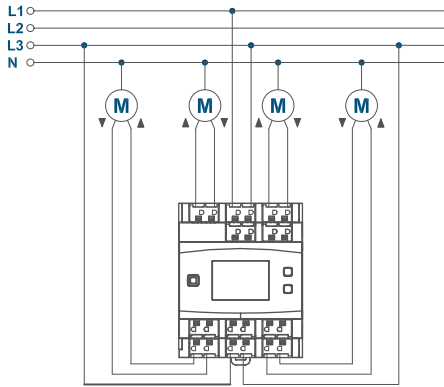
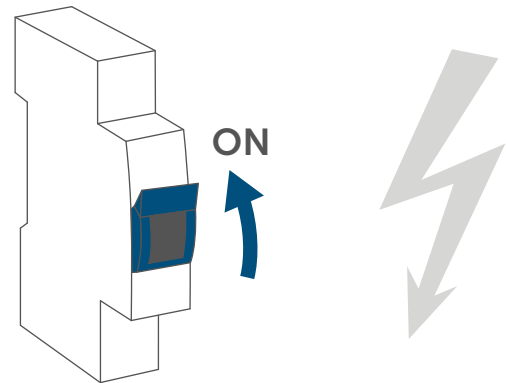

Figure 5
Figure 7
- Wire the device according to the connecting diagrams in figure 5 or 6.
- ding terminal (▲) (F) (see figure 5+6).
- Connect the switched phase conductor to move the blinds down for the selected channel to the corresponding terminal (▼) (E) (see figure 5+6).
- Connect the external push-buttons/ switches as shown to connecting terminal 1 to 8 (see figure 5):
- Connecting terminal 1, 3, 5, 7 (E): "Down"
- Connecting terminal 2, 4, 6, 8 (F): "Up"
- Switch the fuse of the power circuit on again (see figure 7) to activate the pairing mode of the device (see „6.3 Pairing“ on page 22).